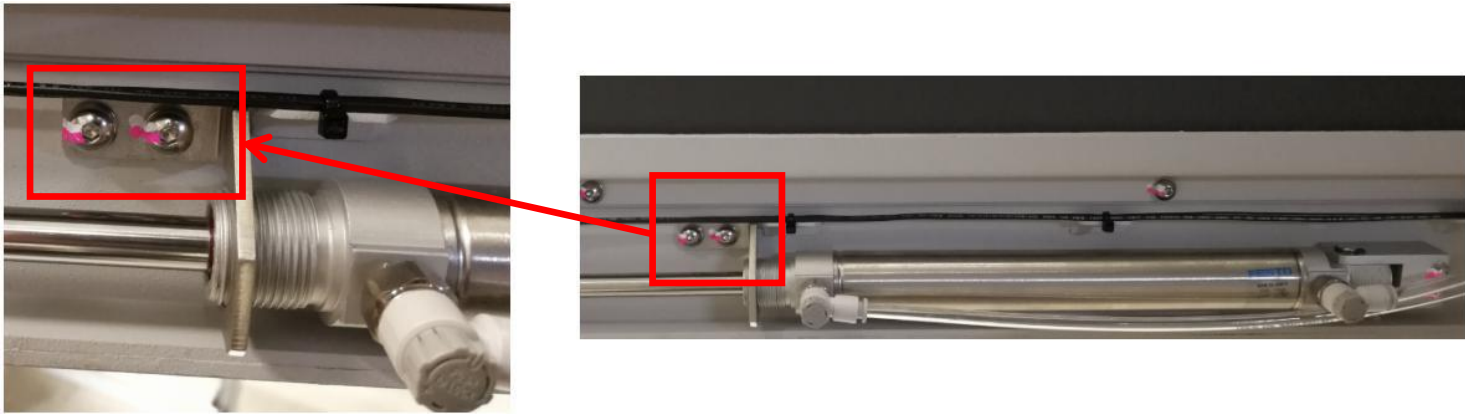

Figure 3
6. Loosen 2 x Screws & Remove Front Cylinder Holder as Figure 3